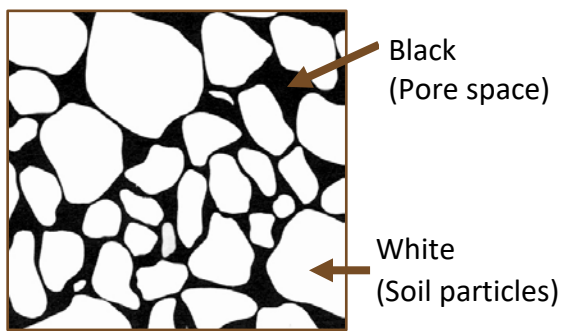

Figure 9.—Soil porosity
*Soil porosity.*—Percent of total soil volume consisting of pore space (fig. 9).